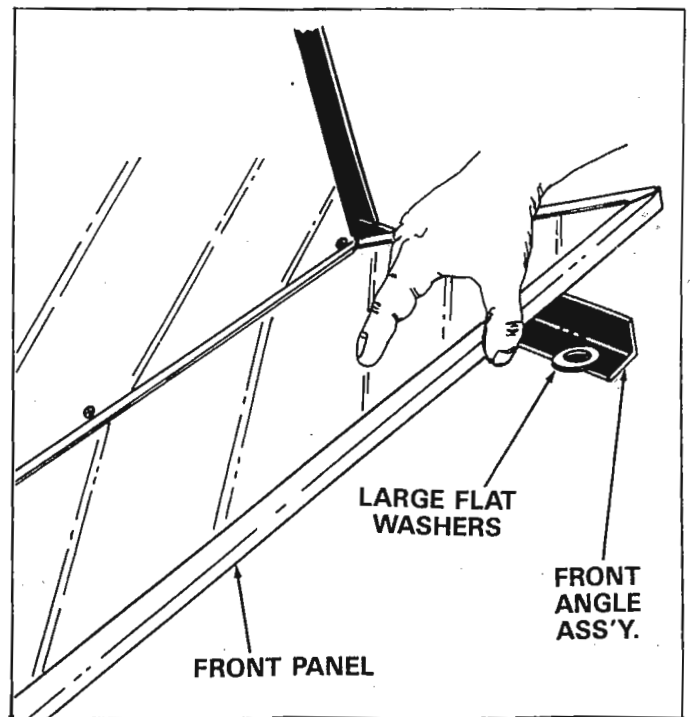

FIGURE 5
- Lay the front panel on top of the four large washers and in the front angle assembly. See figure 5.